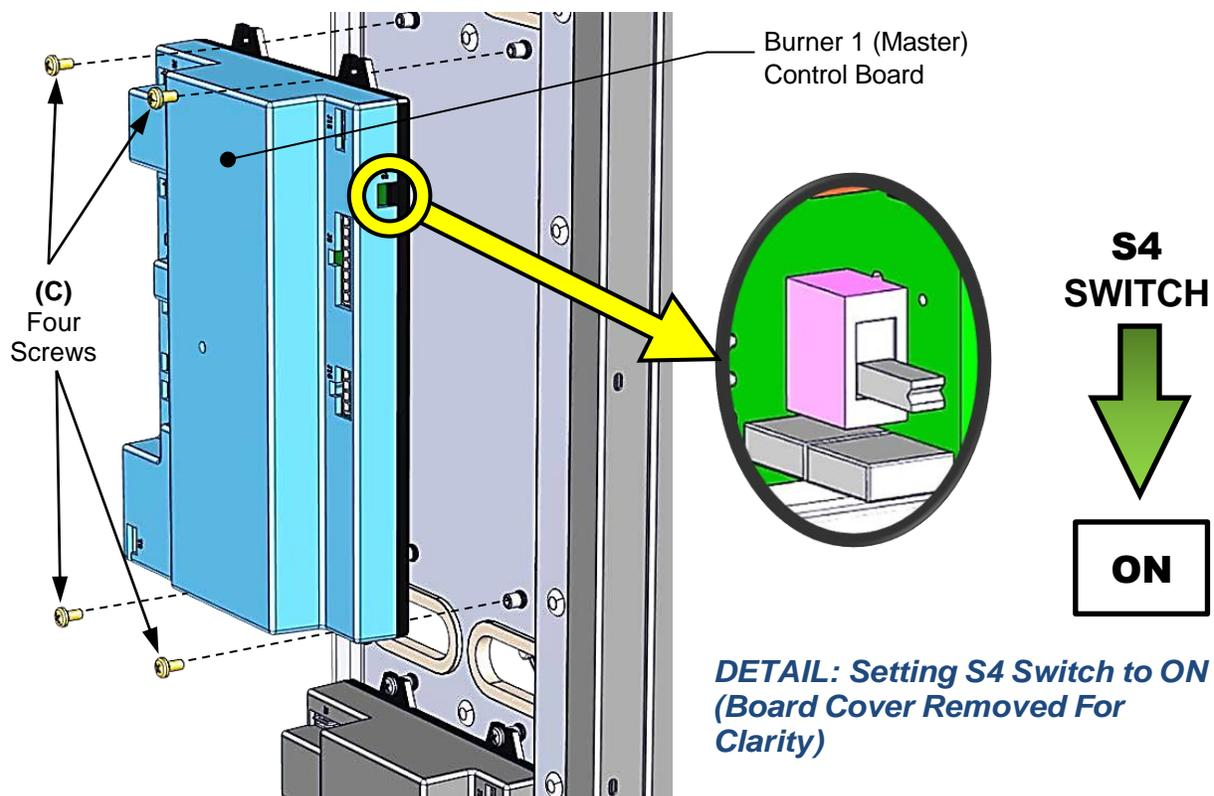

Figure 10-11: Replacing the Burner 1 (Master) Control Board
3. Refer to Figure 10-11 and disconnect plug “B” (plug coming from display) from plug “A” (plug coming from “Burner 1 (Master)”).
5. Loosen the four (4) screws “C” and remove the Burner 1 (Master) control board from the unit.
8. Locate S4 Switch per figure 10-11, and move from OFF (UP) to ON (DOWN) position.